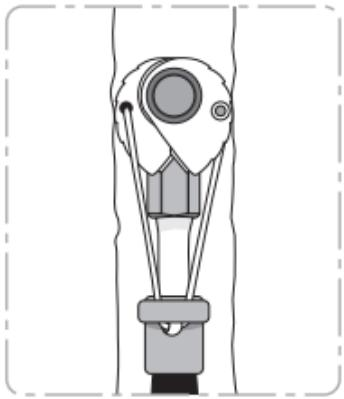

Figure 1
- Pull the trigger to close the cam lobes and insert the Basic Cam in the crack, lobes first. Release the trigger to allow the cam lobes to make contact with the rock face. It is best for the cam lobes to work at less than half their expansion range, i.e. when they are between 50% and 90% closed (**see figure 1**). Try to avoid closing them completely, as you will find it difficult to get them out afterwards.